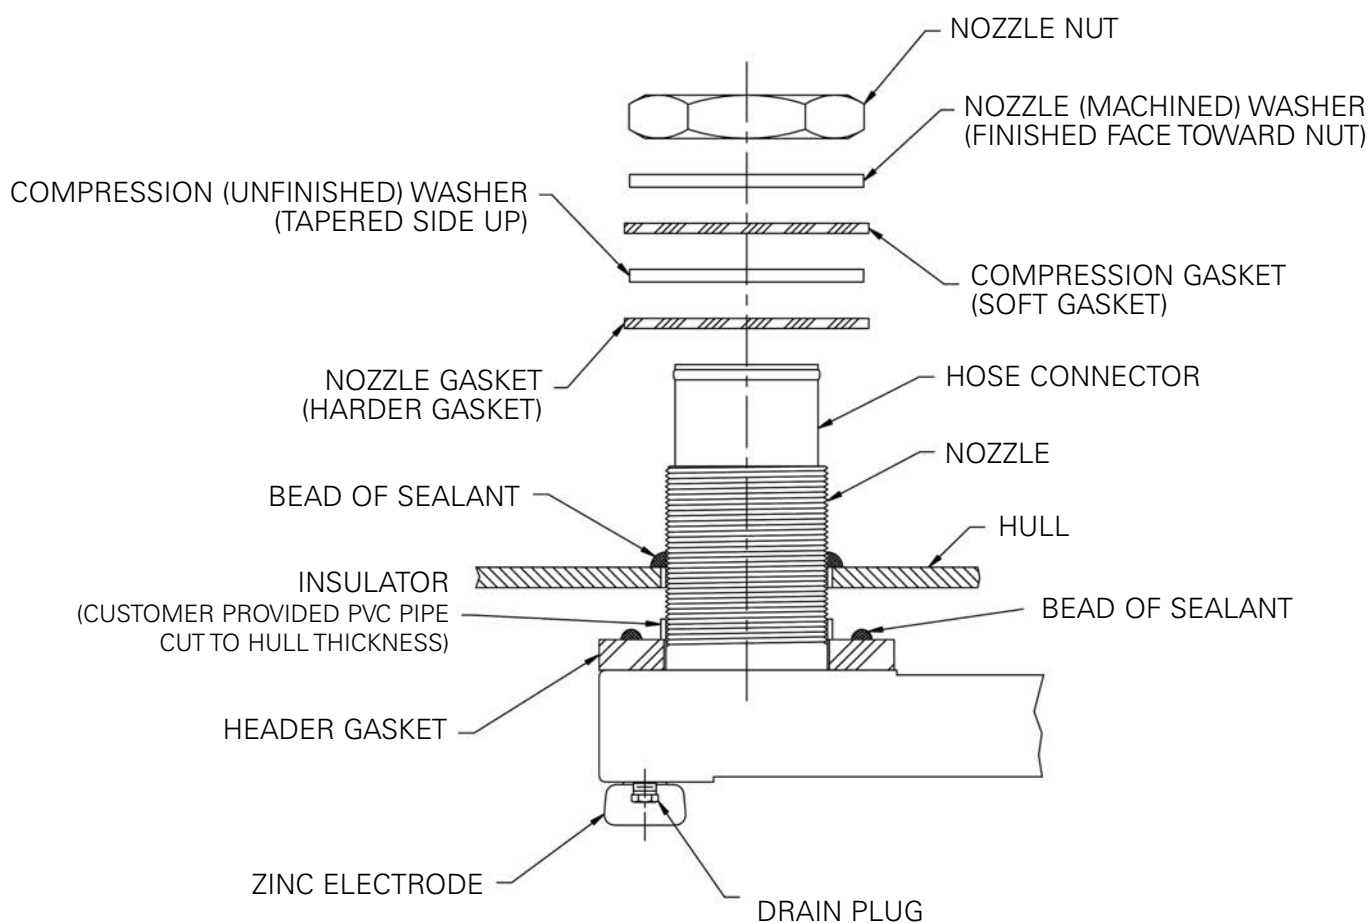

FIG. 18 Compression Sealing Parts Placement
3.1 COFFERDAM INSTALLATION WITH COMPRESSION GASKETS(see Figure 18)